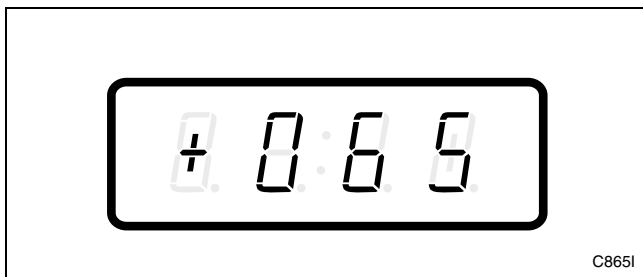

Figure 227
- Press the LOW TEMP (+) or the NO HEAT (-) keypad to scroll through the programmable options until “+065” appears in the VFD. Refer to *Figure 227*.